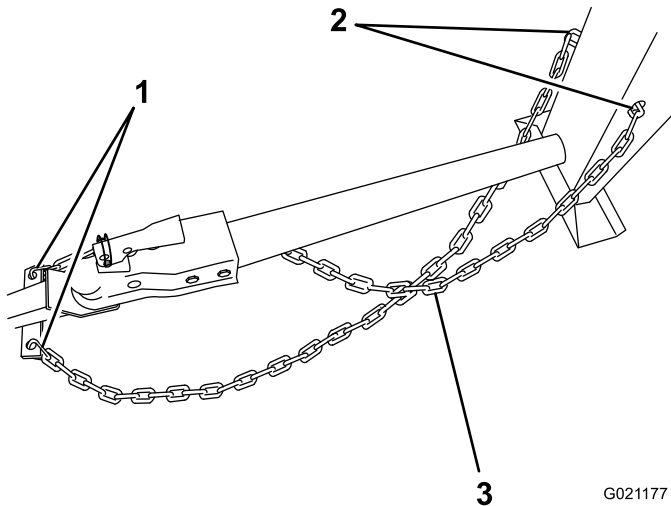
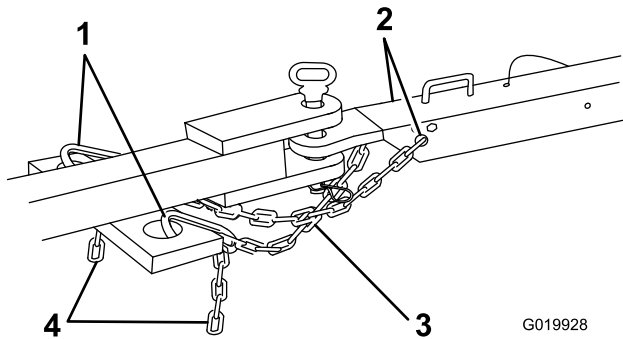

Figure 26
Figure 27
2. Cross both lengths of chain **under** the tow pole (under the tongue for end-dump models 68007C and 68008C). For models 68004C, 68006C, and 68009C refer to Figure 26. For models 68007C and 68008C refer to Figure 27.